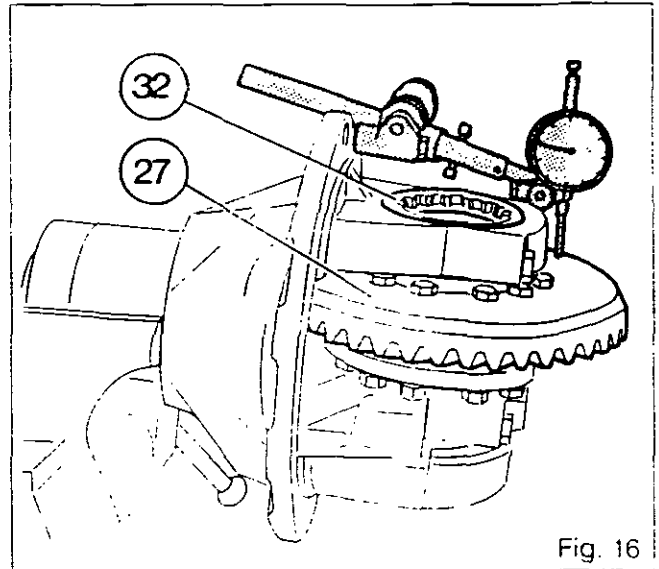
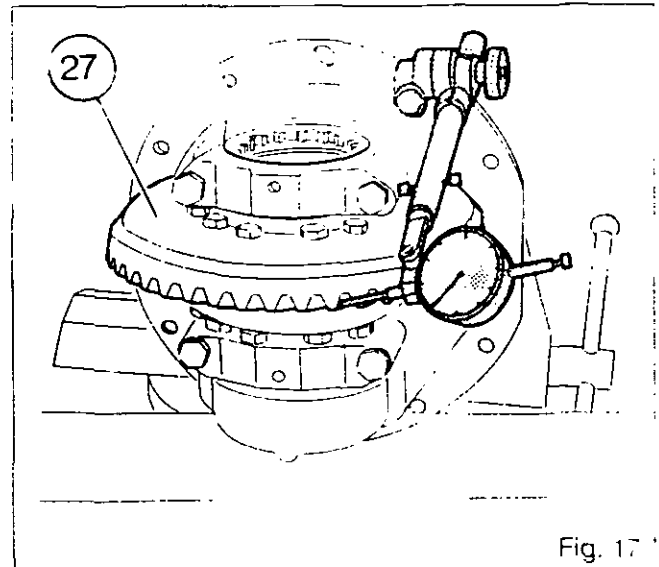

Fig. 16
Fig. 17
77. Put the housing in a horizontal position in a soft-jawed vice, the crown uppermost (Fig. 16).
78. Put a dial gauge in place. Tighten the nut (32) (Fig. 16) and turn the crownwheel a few times to seat the bearing cones properly in the cups. Tighten the nut again to eliminate the axial play.
79. Tighten the nut (32) a further 3 notches to obtain the correct preload.
80. Check the backlash between the teeth of the crownwheel and of the pinion with a dial gauge (Fig. 17). Take three readings at three equidistant points. Determine the average of the three readings. This should be within the following values:
81. Remove the bearing bolts (42) one by one. Smear them with Loctite 270 and tighten them to a torque of 136 - 150 Nm.
82. Refit the locking plate (31) with the bolt (30) smeared with Loctite 270 and tighten to a torque of 16-26 Nm. Lock the nut (32), bending the tab of the locking plate in the appropriate groove.